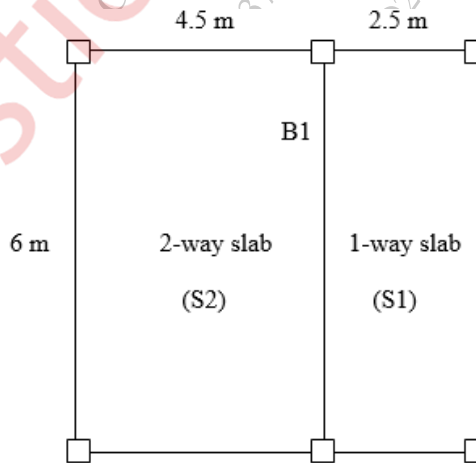

Figure 2
- d Figure 2 shows a RCC slab-beam system. Slab S_1 is 160 mm thick and slab S_2 is 135 mm thick. Live load on both the slabs is 4.5 kN/m^2 and floor finish load on both the slabs is 1.1 kN/m^2 . Beam B_1 is 280 mm wide and 550 mm deep. It carries a masonry wall of width 230 mm and height 3 m on its entire length. Unit weight of masonry is 20 kN/m^3 . Calculate the load carried by beam B_1 , including its self weight. Use limit state approach. **05M**